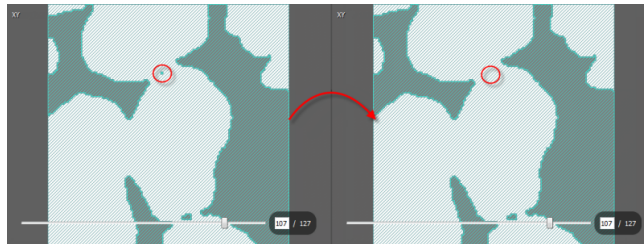

Figure 5.8: Removing islands
- Press *Apply*. The islands are then removed (see Figure 5.8).